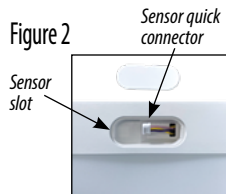

Figure 3
- Clip sensor into sensor slot and snap into frame (Figure 3).